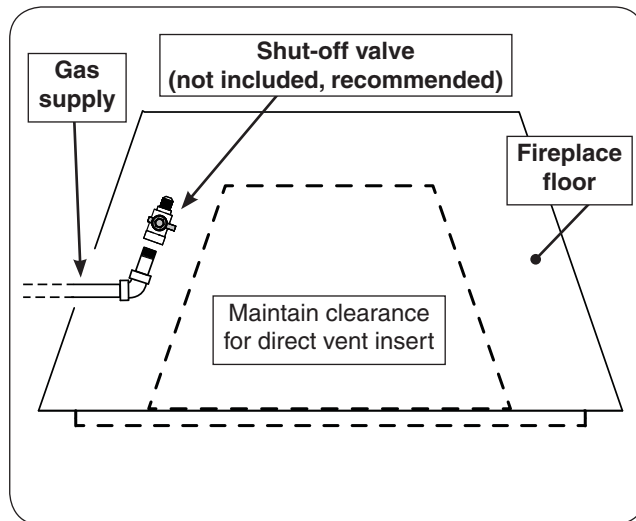

Fig. 20-1 Route gas supply
2. It is recommended that a gas shut-off valve (not included) be attached to the gas supply stub. Use a pipe compound resistant to all gasses. See Fig 20-1.